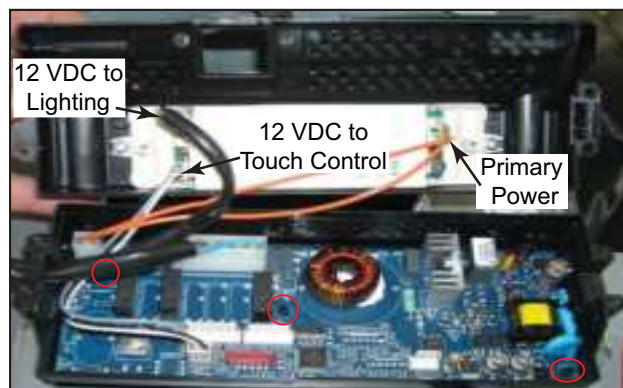

Figure 3-9. Power Board and Transformer
5. Remove three black screws holding Power Board to Power Board Assembly case. (See Figure 3-9 - Red Circles)